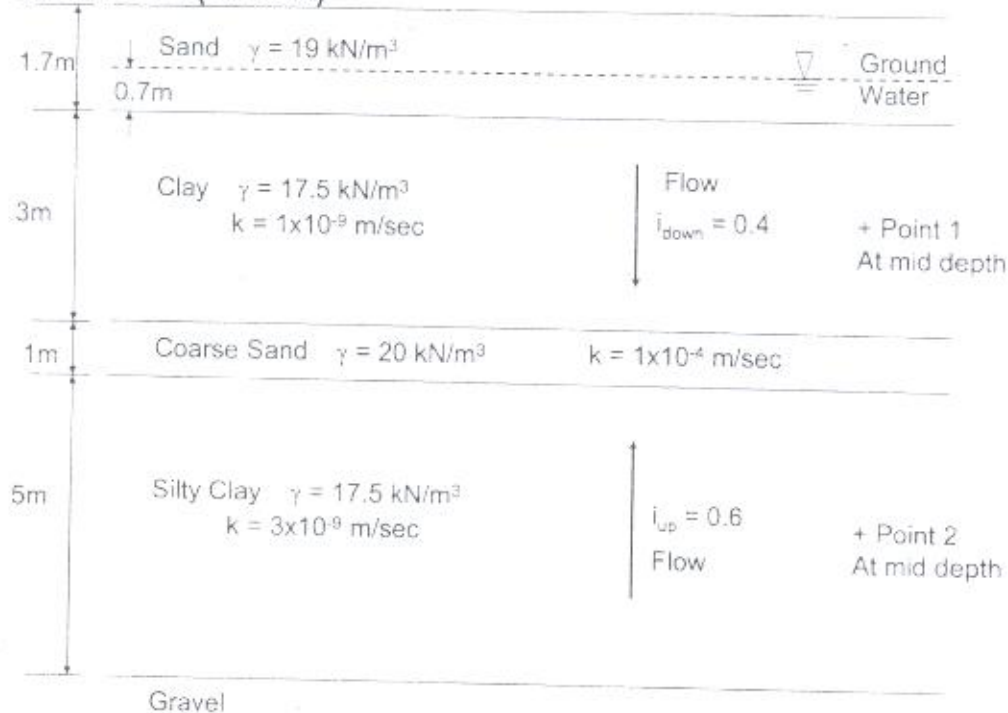

Figure 4
- Calculate effective vertical stress at points 1 and points 2 in Figure 4 of Question 2.